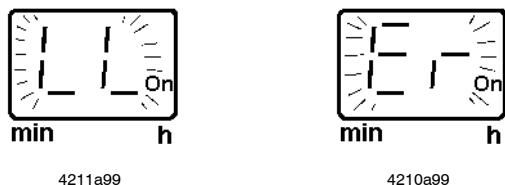

Fig. 28 Display of an low-level indication or malfunction
- Finally the intermittent \* LL \* appears for a low-level indication that had not been confirmed (see fig. 28, page 19).